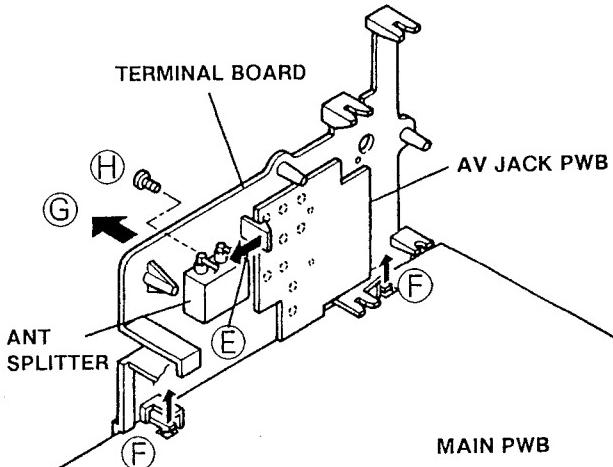

Fig.1
2. After removing the claw marked **(E)** from the AV JACK PWB in the direction of arrow mark as shown in Fig.1, remove the 2 claws marked **(F)** in the direction of arrow mark, then take off the TERMINAL BOARD in the direction of arrow marked **(G)**.
1. Remove a screw marked **(H)** as shown Fig.1.